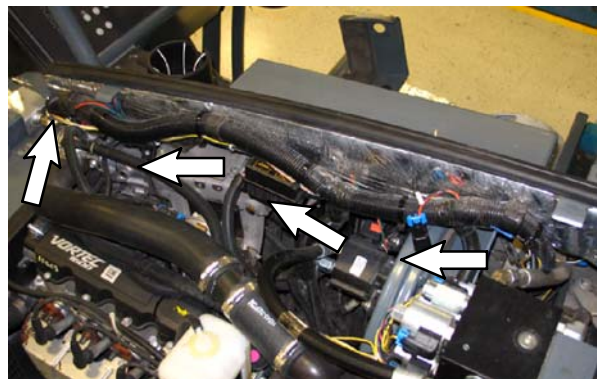

FIG. 15
49. Route the *ec-H20* harness along the bottom of the main wire harness and toward the front of the machine. Refer to Fig. 15.